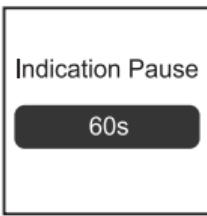

Fig.4-6
4.1.3 Tap "Indication Pause". The screen will display as in Fig.4-6, tap the figure to set the pause time between "60s", "120s" and "180s".